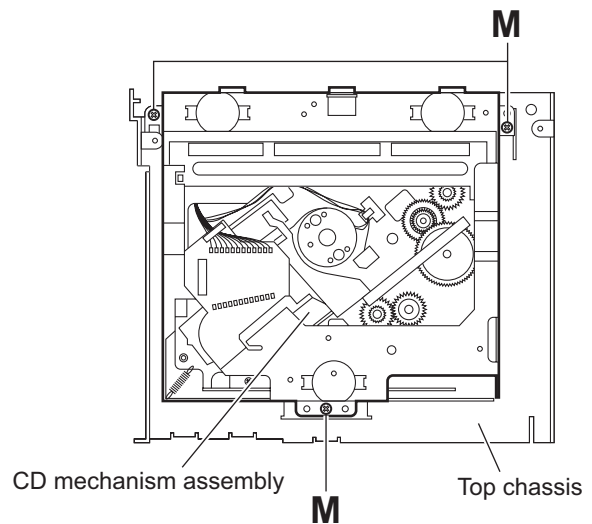

Fig.9
3.1.9 Removing the CD mechanism assembly (See Fig.9)